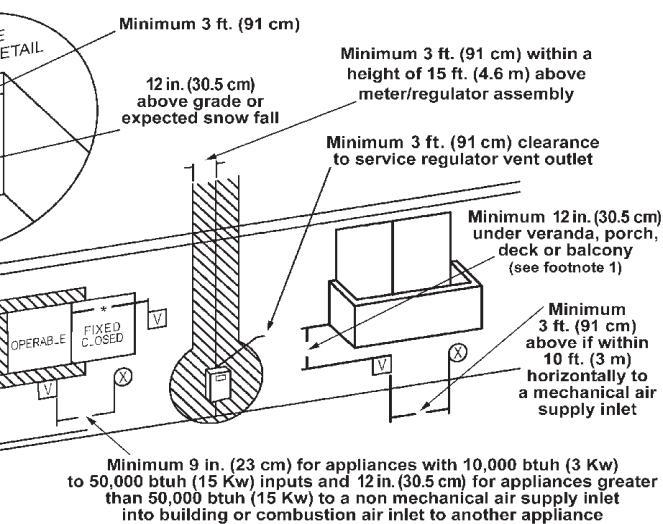

FIGURE 4.
- The Power Direct Vent outlet terminal shall terminate at least 36" (91 cm) above any forced air inlet located within 10 feet (305 cm), see Figure 4.
- The Power Direct Vent outlet terminal of 50,000 BtuH input models or less shall terminate at least 9" (23 cm) below, 9" (23 cm) horizontally from or 9" (23 cm) above any door, window or gravity air inlet into the building, see Figure 4.
- The Power Direct Vent outlet terminal of over 50,000 BtuH input models shall terminate at least 12" (30.5 cm) below, 12" (30.5 cm) horizontally from or 12" (30.5 cm) above any door, window or gravity air inlet into the building, see Figure 4.